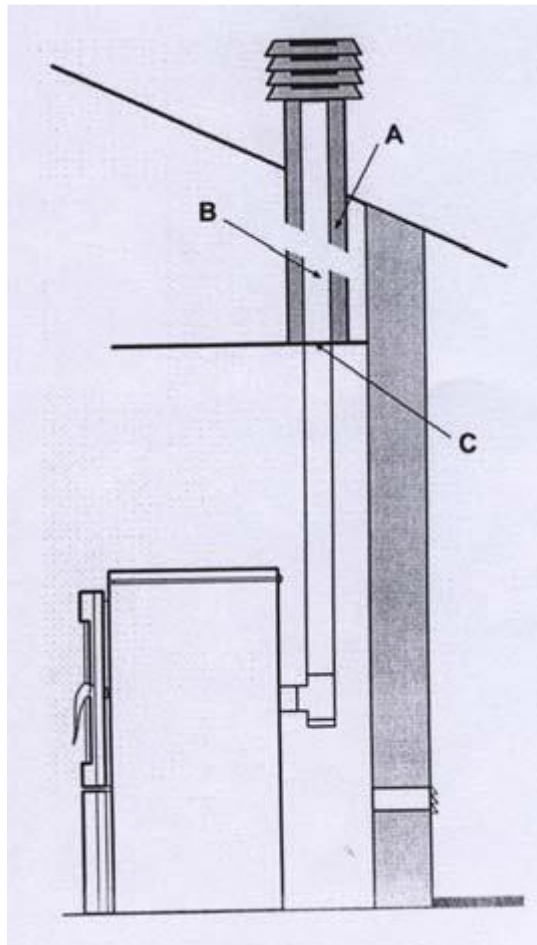

Figure 7
- Avoid contact with an easily burning material (such as wooden beams) and in all cases it is necessary to insulate them with fireproof material (see figure 7).